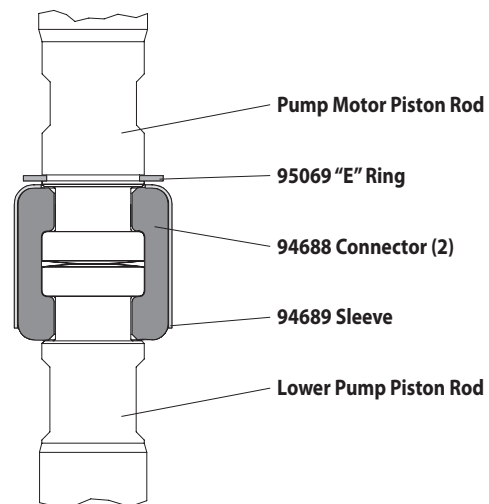

Figure 2
4. Using e-ring pliers, slide the "e" ring up far enough to allow the sleeve to move upward and release the two connectors (see figure 2).